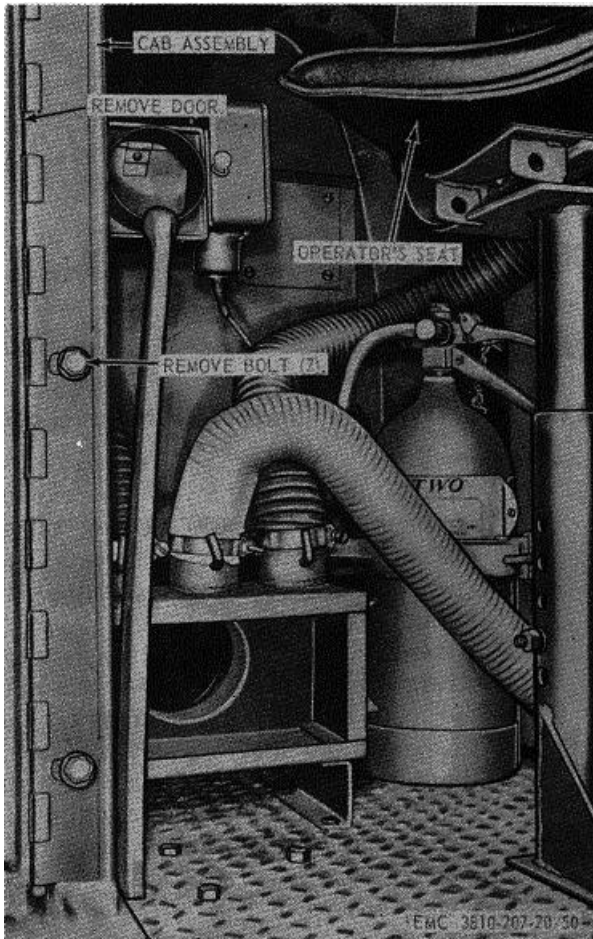

Figure 50. Operator's door, removal and installation.
- (1) Open the operator's door.
- (2) Remove the operator's door as instructed on figure 50.
- (1) Clean the operator's door with an approved cleaning solvent.
- (2) Inspect the door for bends, broken glass, and other damage. Replace defective operator's door or glass.
c. *Installation.* Install the operator's door as illustrated on figure 50.